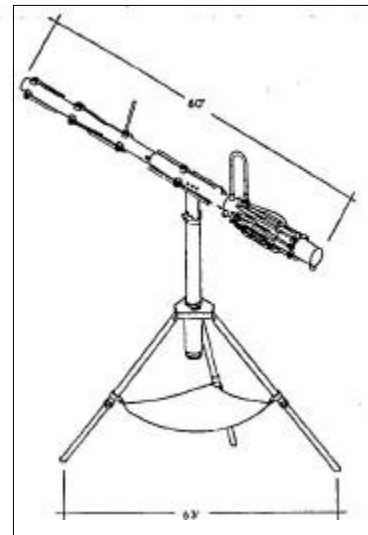

Figure B-3. UHF Antenna Elevation
- UHF communication antenna (see Figure B-3).